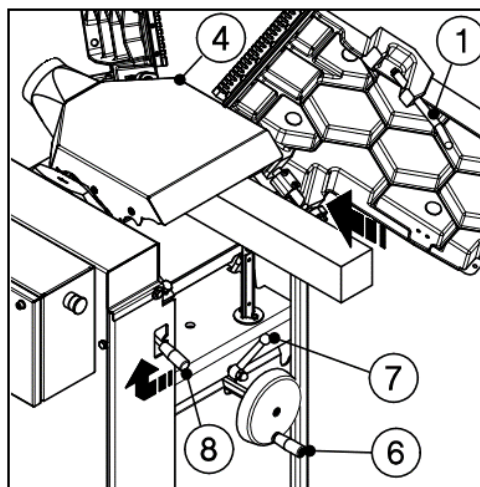

Fig 12
- 1 Swing the guard/evacuation device onto the planer shaft (Fig. 12+13) and secure it with the locking